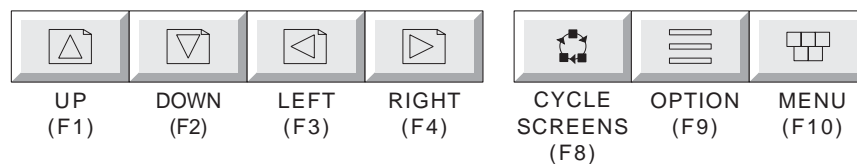

Figure 2.1.3.3 Function key operation
3. Function keys, (plus the above). This allows the keyboard function keys to mimic the instrument navigation keys, as shown in figure 2.1.3.3. The keys are described in section 2.1.3.2, above.